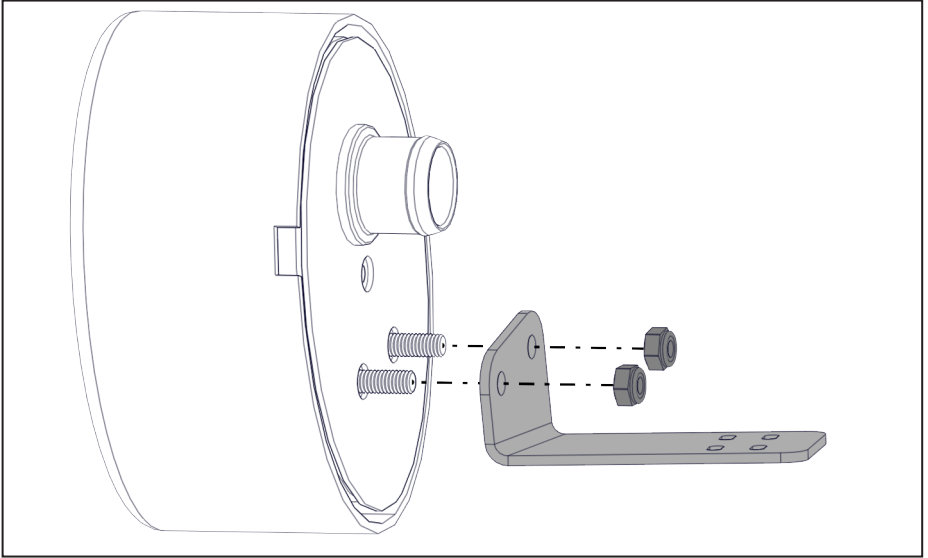

Figure 38 — Install the air filter bracket
- Install the air filter bracket onto the air filter assembly (Figure 38).